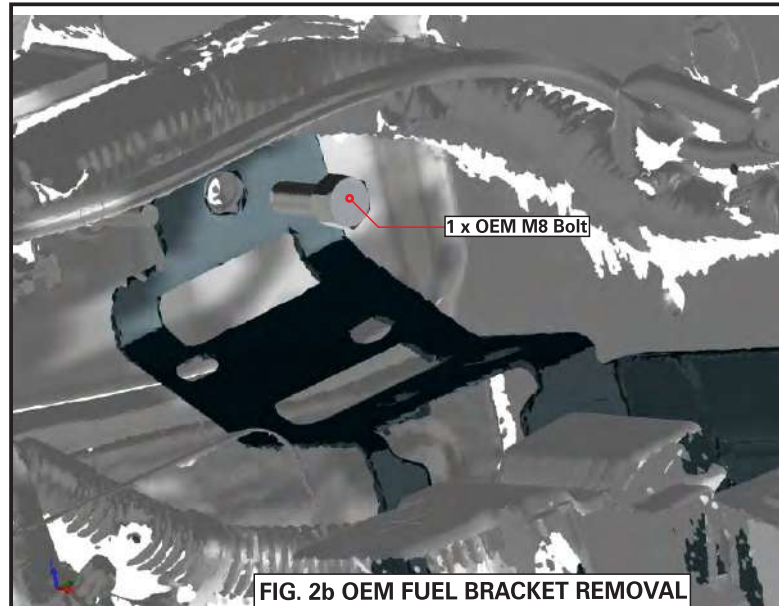

FIG. 2b OEM FUEL BRACKET REMOVAL
5. Unscrew the OEM M8 bolt shown in Fig. 2b. Place this M8 bolt with the other 2 OEM M8 bolts as you will be using these to fit the Ryco FB9810FC bracket later.